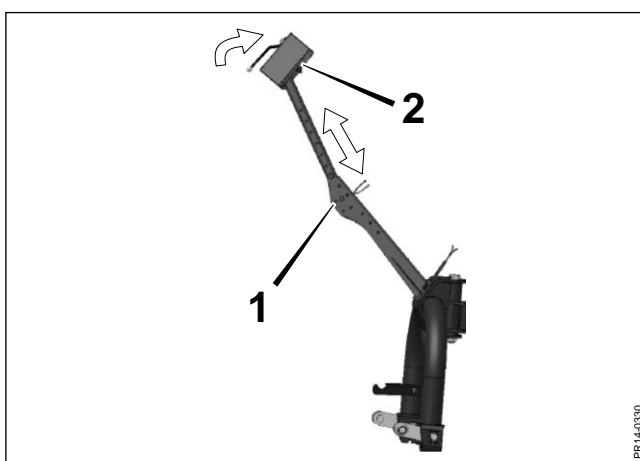

Fig. 4-5
- Fig. 4-5** At the linkage there is a holder (1) with a control box (2) for operation of the tedder. The holder has many adjustment possibilities. The two adjustment screws on the holder are loosened and the control box is mounted at about 30 cm distance to the cabin. The screws are tightened again.